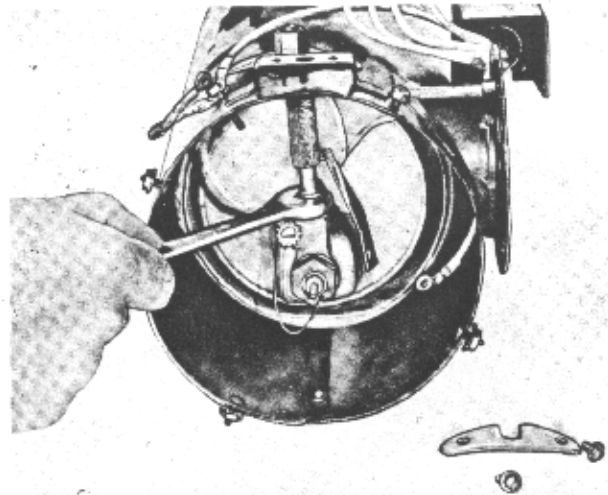

Figure 40
2. Unscrew the standpipe, using an end wrench on the hex at the lower end (Figure 40).